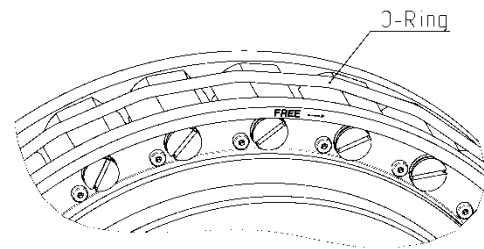

Figure 5: Clamp bodies “after lift-off“
- Lift the inner race (2) including the cage (8) out of the outer race (1). Use appropriate lifting gear at the threaded hole of the inner race for this
- Secure (see Fig. 5 and 6) the clamp bodies in lift-off position (against the spring force) using an O-ring / cable connector as an assembly aid
- Insert the inner race (2) with cage (8) into the outer race (1) until half of the clamp body is covered